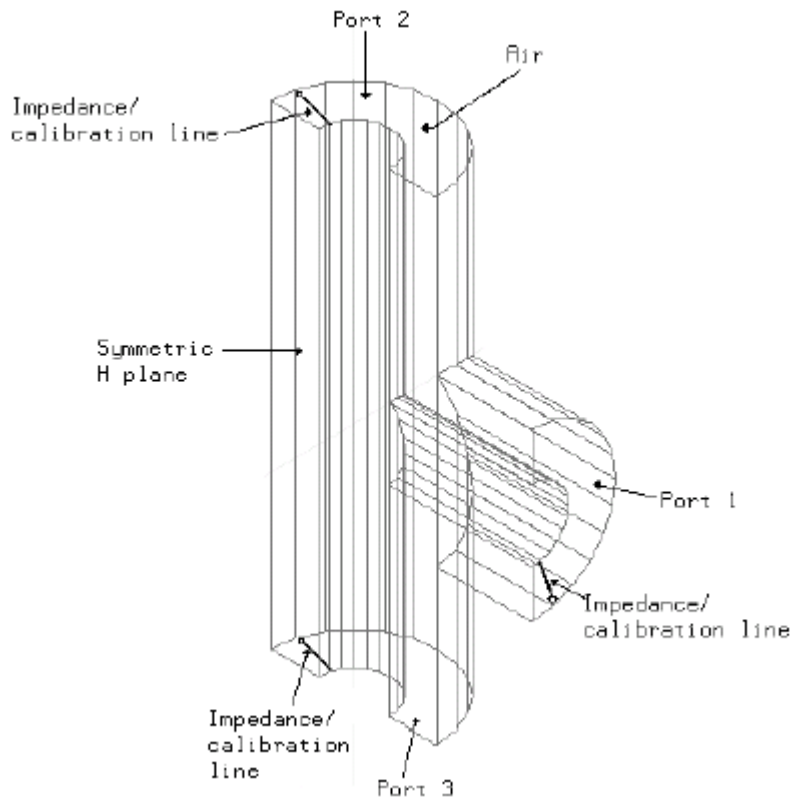

Figure 37 Boundary and Impedance/Calibration Line Locations—Coax Tee-Junction
The coax tee-junction consists of a coaxial transmission line with an inner and an outer metal boundary. Refer to Figure 37 to see the location of the various ports and boundaries for the sliced (one-half of the actual structure), coax tee-junction.
- 9 Place the pointer near a point on port 1 of the coax tee-junction and click it. Refer to Figure 37 on page 86 for the location of the ports. A small x is drawn on the vertex point to indicate it is selected.
- 4 Place the pointer near a point on the symmetry plane of the coax tee-junction and click it. Refer to Figure 37 on page 86 for the location of the magnetic (H) symmetry plane. A small x is drawn on the vertex point to indicate it is selected.
Refer to Figure 37 on page 86 for the location of ports, impedance and calibration lines on the coax tee-junction example.
Refer to Figure 37 on page 86—the impedance and calibration line starts at the outer edge of the port and points inward, in other words, from the reference ground to the signal line.